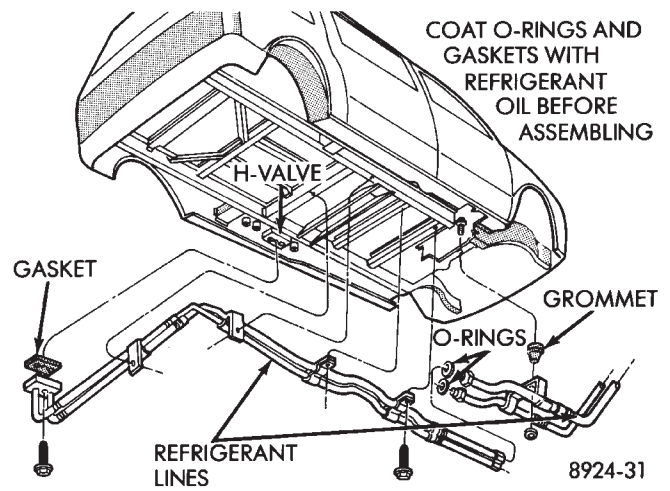

Fig. 3 Rear A/C Under body Plumbing
(1) Protect the plumbing ends from scratches. If plumbing is new, do not remove the shipping caps until joining together.
(2) Reverse the preceding steps from the REMOVAL procedure.
(3) New gaskets and O-rings are required for installation. The O-rings must be covered with clean refrigerant oil prior to installation.
(4) Connect the tube-fittings to the engine compartment under body plumbing. Avoid misalignment of the threads (cross threading) and tighten to 200 in-lbs.
(5) Remove the shipping cap from the plumbing side sealing surface and verify that the aluminum gasket is present.
(6) Carefully align the pilot tubes of the plumbing line block into the unit (take care not to scratch the sealing surface).
(7) Install the bolt through the plumbing plate into the unit sealing plate and tighten to 200 ± 30 inch pounds (23 ± 3 N•m) (Fig. 3).